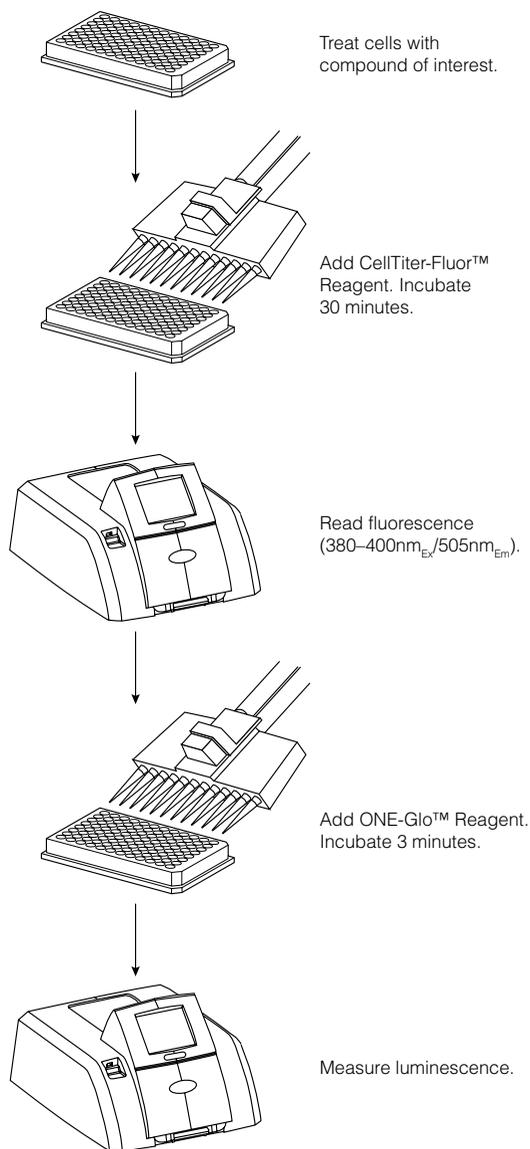

Figure 3. Schematic diagram of the ONE-Glo™ + Tox Luciferase Reporter and Cell Viability Assay.
- **Easy to perform:** The assay uses a simple sequential “add-mix-read” format (Figure 3).